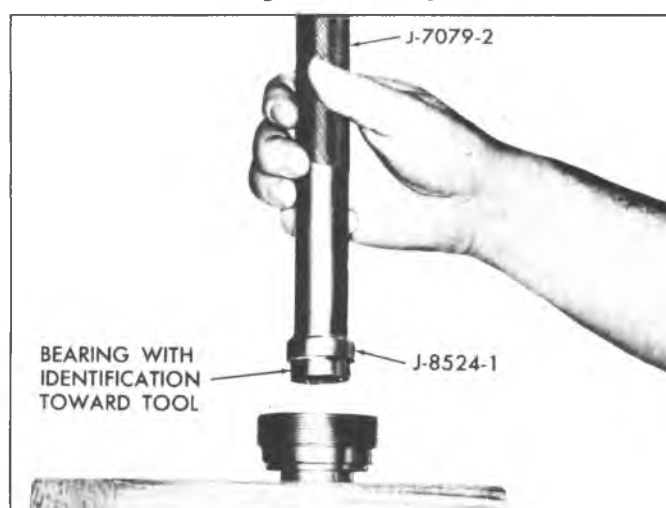

Fig. 40--Installing Bearing
1. If the needle bearing was removed, place new needle bearing over Tool J-8524-1 and J-7079-2, with the bearing manufacturer's identification toward the tool, and drive the bearing into the adjuster plug until the tool bottoms in the housing (fig. 40).